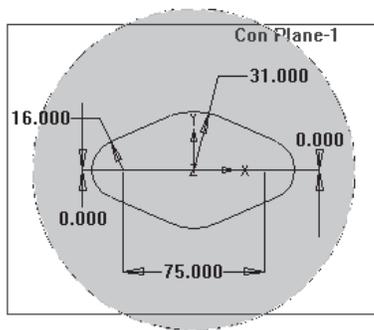

Figure 3-68 Sketch for the second feature
- Draw the sketch for the second feature on the top face of the base feature and extrude it to the given dimension, refer to Figure 3-68.
1. Select the top planar face of the base feature as the sketching plane, draw the sketch for the second feature, and apply the required relations and dimensions to it, as shown in Figure 3-68.